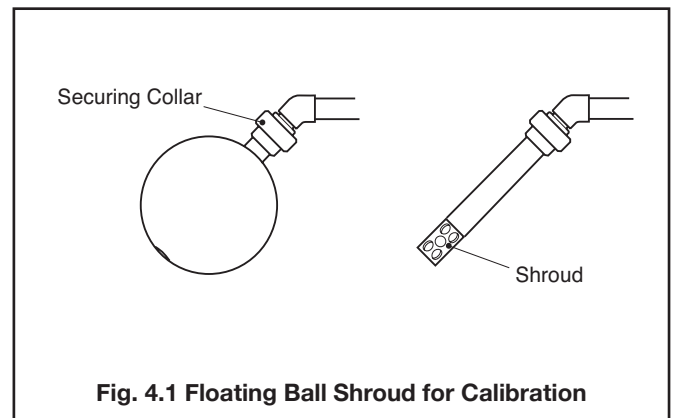

Fig. 4.1 Floating Ball Shroud for Calibration
4.2 Calibrating the Sensor – Fig. 4.1
- 2) If the system is a floating ball type, unscrew the securing collar and remove the ball – Fig. 4.1.
- 4) If the system is a floating ball type, fit the shroud, provided with the system, to protect the sensor capsule – Fig. 4.1.
- 6) If the system is a floating ball type, remove the protective shroud after calibration and replace the ball – Fig. 4.1.